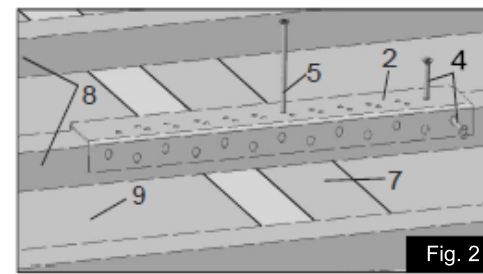

Fig. 2
- Place the reinforcement rail (2) on the roof batten centered on the counter batten.
- Slide the reinforcement rail (2) horizontally until the slotted hole of the support element (3) lines up with the hole of the reinforcement rail (2). Secure the reinforcement rail (2) with a screw (4) in the fall line. (screw (4) can also be screwed in from above). (Fig. 2)
- Remove the roof-mounted module bracket with metal roofing plate again and screw the reinforcement rail (2) onto the counter batten with screw (5). (Fig. 2)